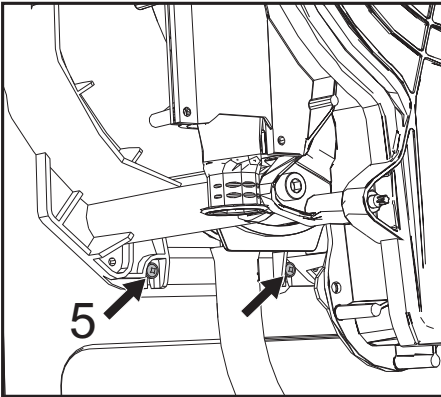

fig. 49
- Loosen the **2 bottom screws "5"** securing the exchanger to the frame (fig. 49)